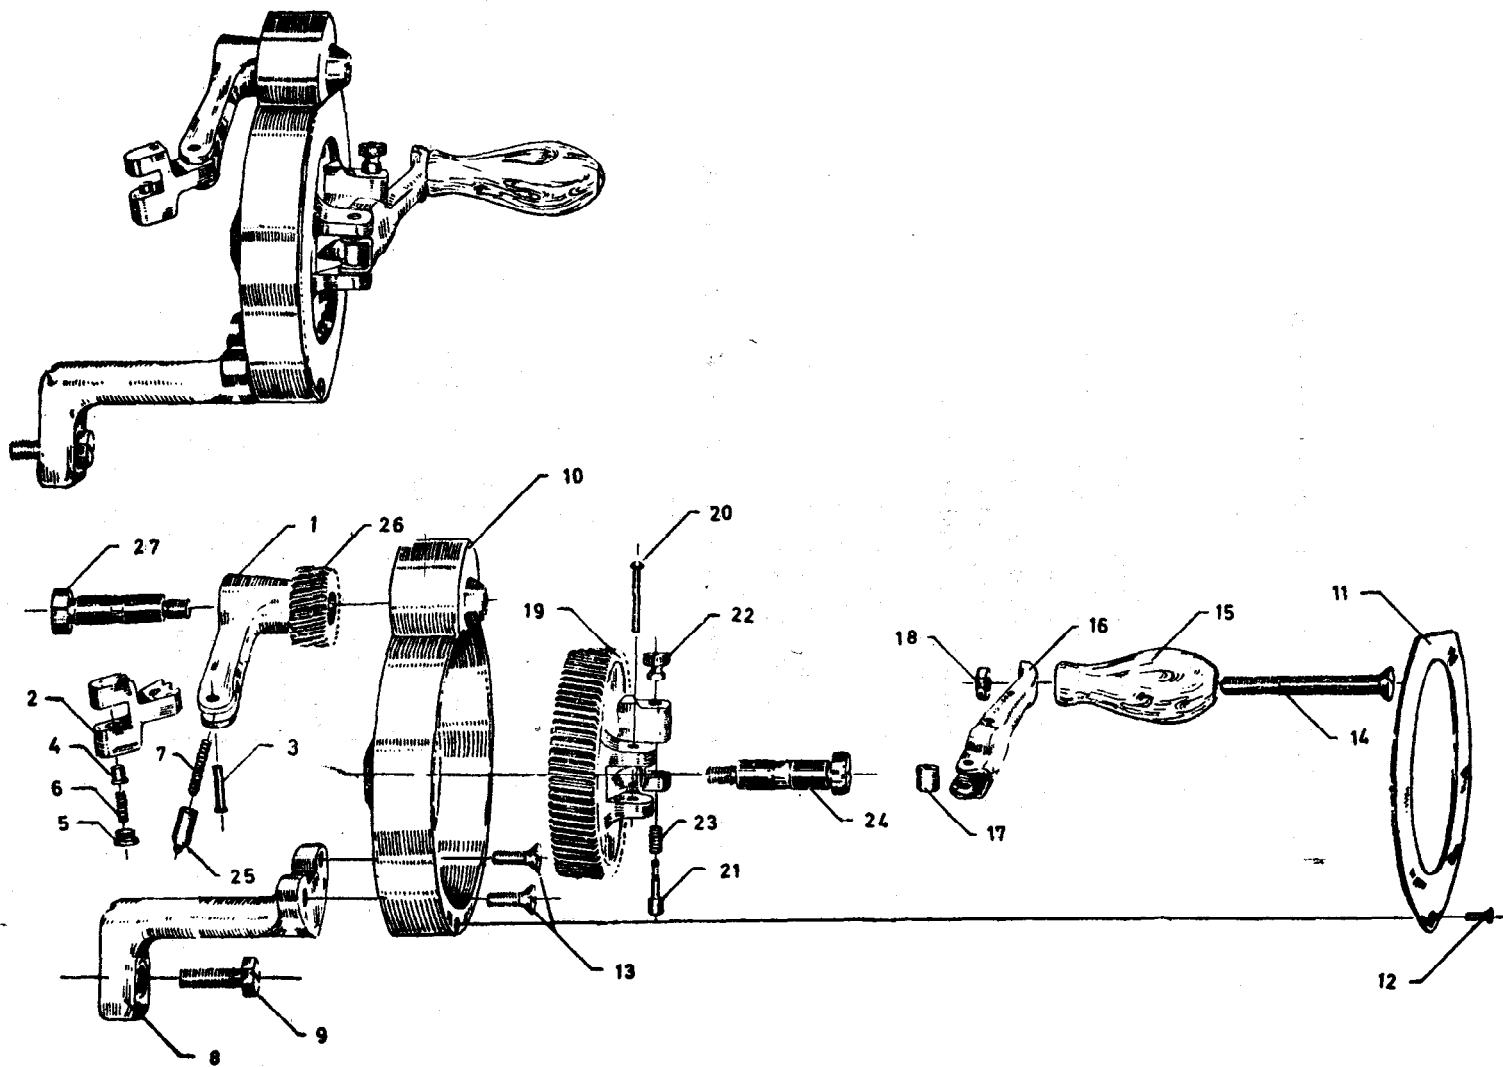

FIG. 8 HAND ATTACHMENT ASSEMBLY
**2.8 Hand Attachment Assembly — See Fig. 8.**